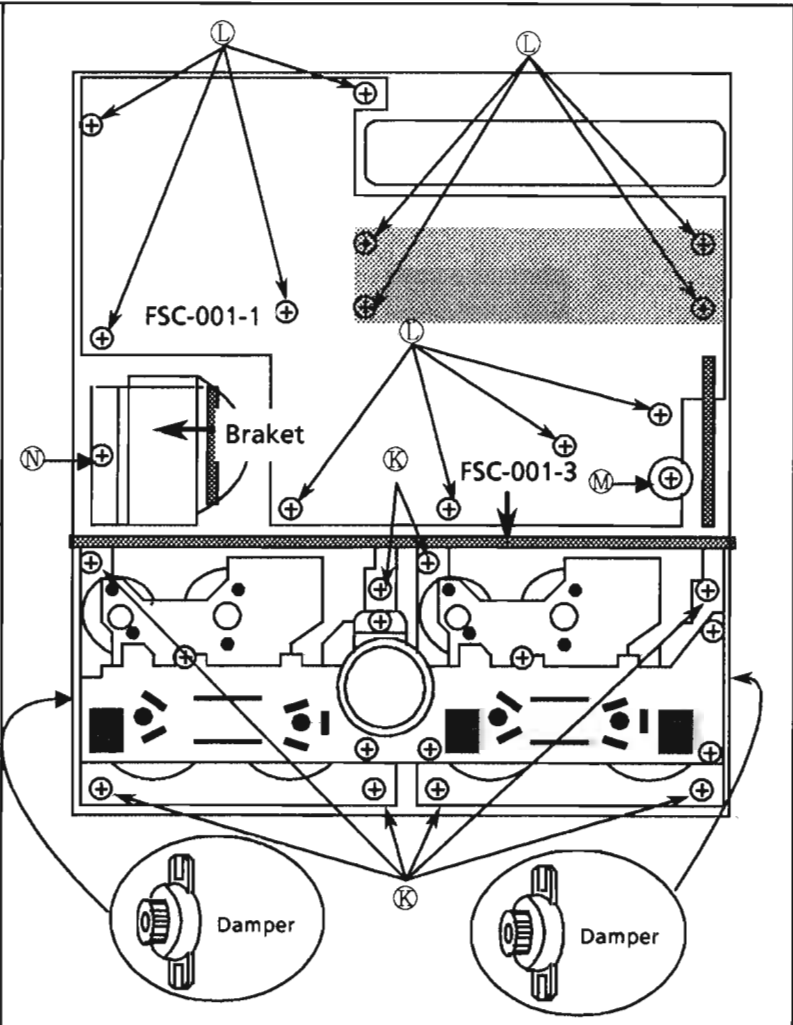

Fig 10 Front panel Rear view
1. Remove the screws ⑨ (Fig.10).
4. Remove the Nut ⑩.